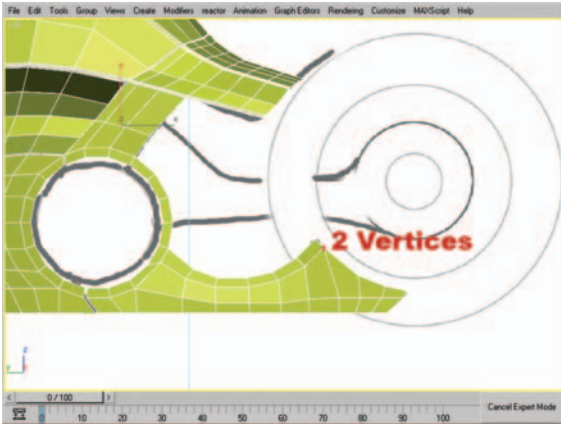

Figure 8.59 Two vertices at this location. Use Weld to weld them into one vertex.
60. Select the two vertices in the location highlighted in Figure 8.59 and use Weld to weld them, resulting in one vertex remaining.